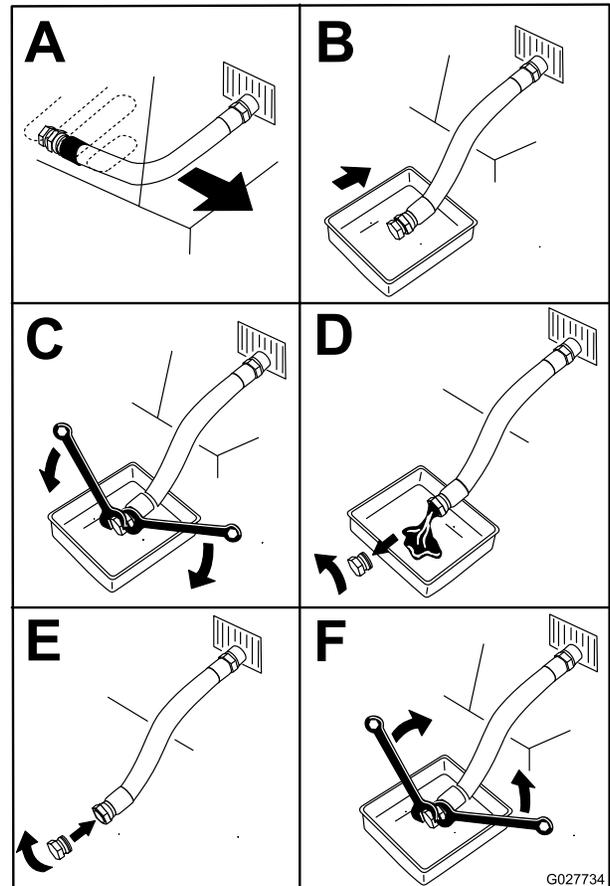

Figure 59
- Drain the oil from the engine (Figure 59).